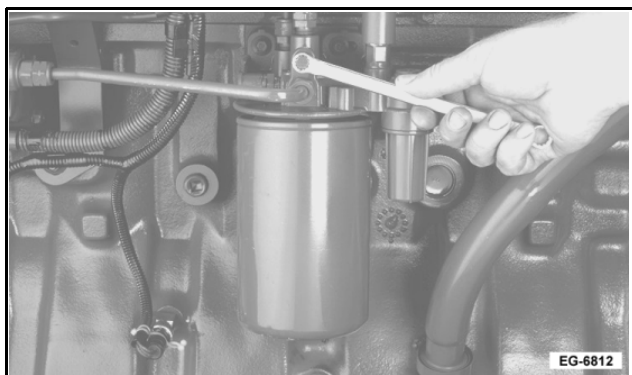

Figure 51 Removing Air Bleeder Valve
1. Remove air bleed valve on fuel filter header (See Figure 51, page 93). Install a 1/8 in (3 mm) pipe fitting in place of the bleed valve.